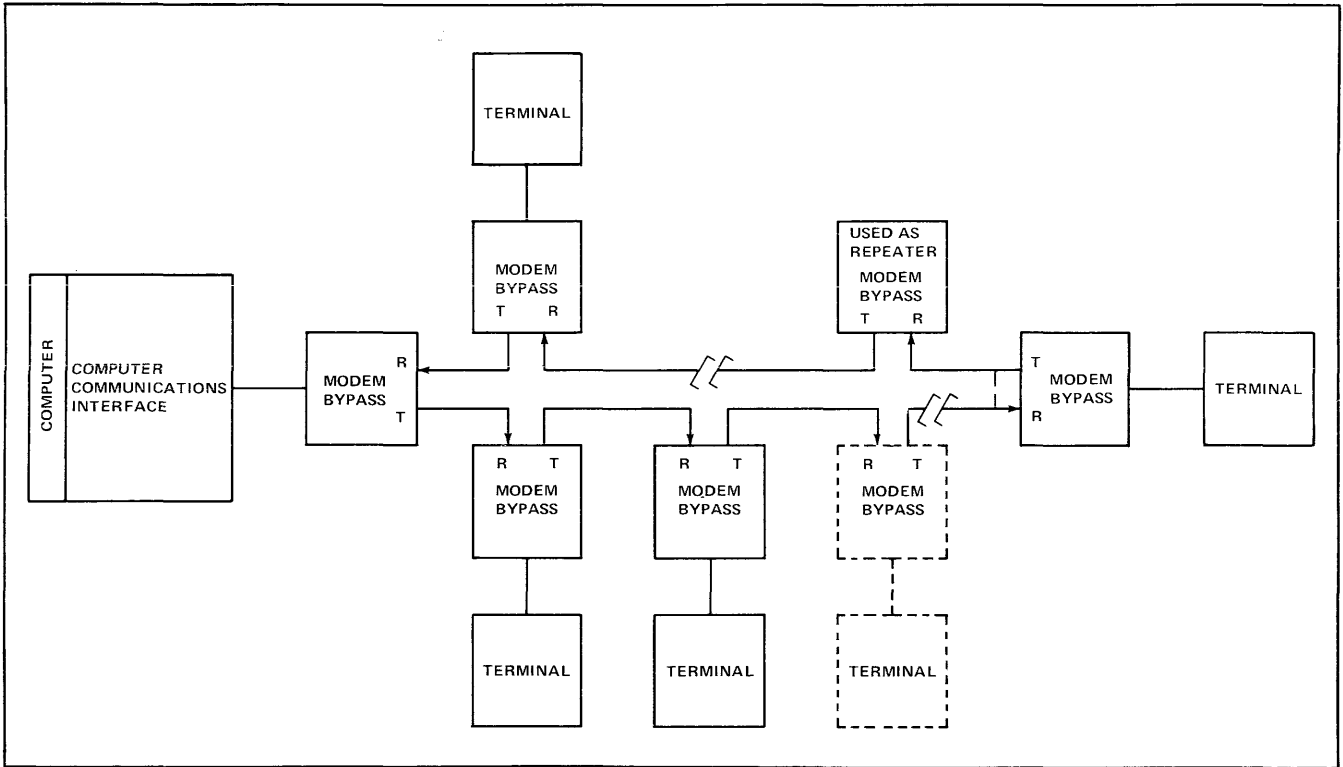

Figure 2. Typical Multipoint/Repeater Configuration
by incorporating selective calling and polling procedures. By raising its Request to Send (RS) control, any terminal in the multi-drop loop can communicate with the master station in the full-duplex mode. A sample multipoint/repeater configuration is shown in Figure 2. The repeater mode is entered when the interim stations have their RS controls disabled, making them transparent to the transferred data. In this multipoint repeater configuration, all Modem Bypass units are hooked up in series so that the transmit terminal (T) of one unit is connected to the receive terminal (R) of the next unit as shown in Figure 2.